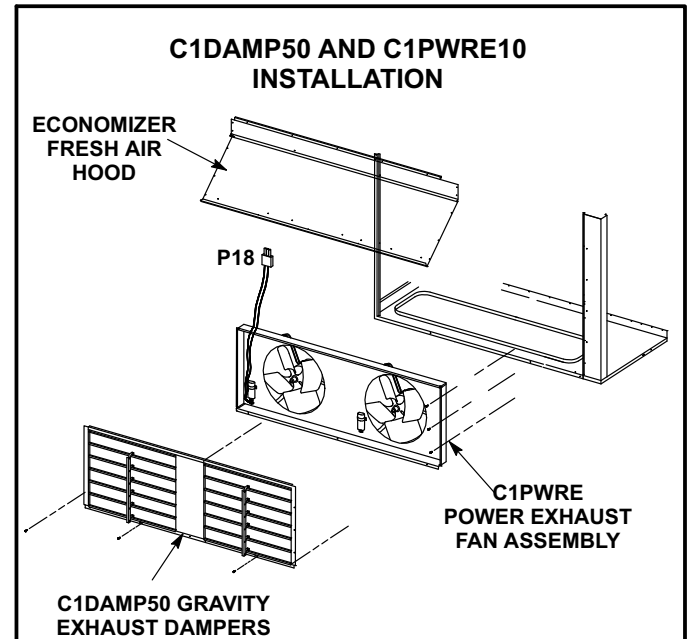

FIGURE 38
C1DAMP50 dampers (figure 38) are used in downflow and LAGED(H)18/24 are used in horizontal air discharge applications. LAGED(H) gravity exhaust dampers are installed in the return air plenum. The dampers must be used any time an economizer or power exhaust fans are applied to KGB series units.
Power exhaust fans are used in downflow applications only. The fans require optional downflow barometric relief dampers and K1ECON economizers. Power exhaust fans provide exhaust air pressure relief and also run when return air dampers are closed and supply air blowers are operating. Figure 38 shows the location of the C1PWRE. See installation instructions for more detail.